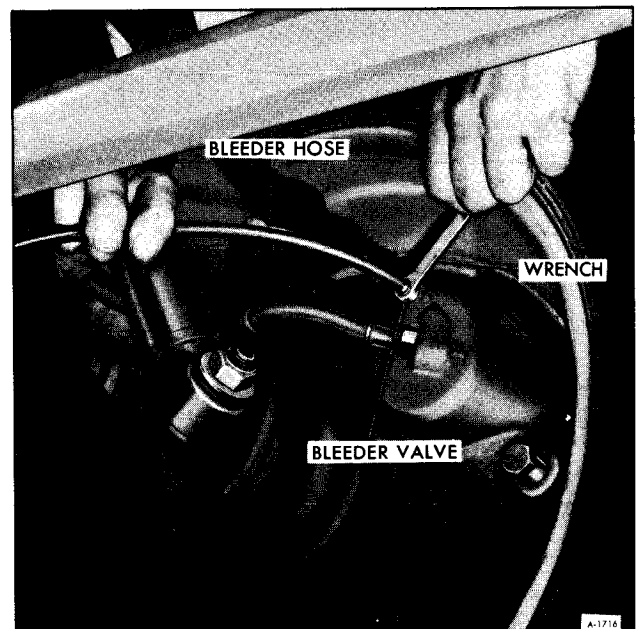

Figure 2—Brake Bleeder Wrench and Hose
2. Install bleeder wrench on bleeder valve. Slip a brake bleeder hose over ball of wheel cylinder bleeder valve (See figure 2). Place lower end of bleeder tube in a glass jar that is partially filled with clean brake fluid. Position end of tube so that it will remain
3. Install Bleeder Wrench on bleeder valve. Slip a brake bleeder tube over ball of wheel cylinder bleeder valve (figure 2). Place lower end of bleeder tube in a clean glass jar. Unscrew bleeder valve  $3/4$  of a turn.